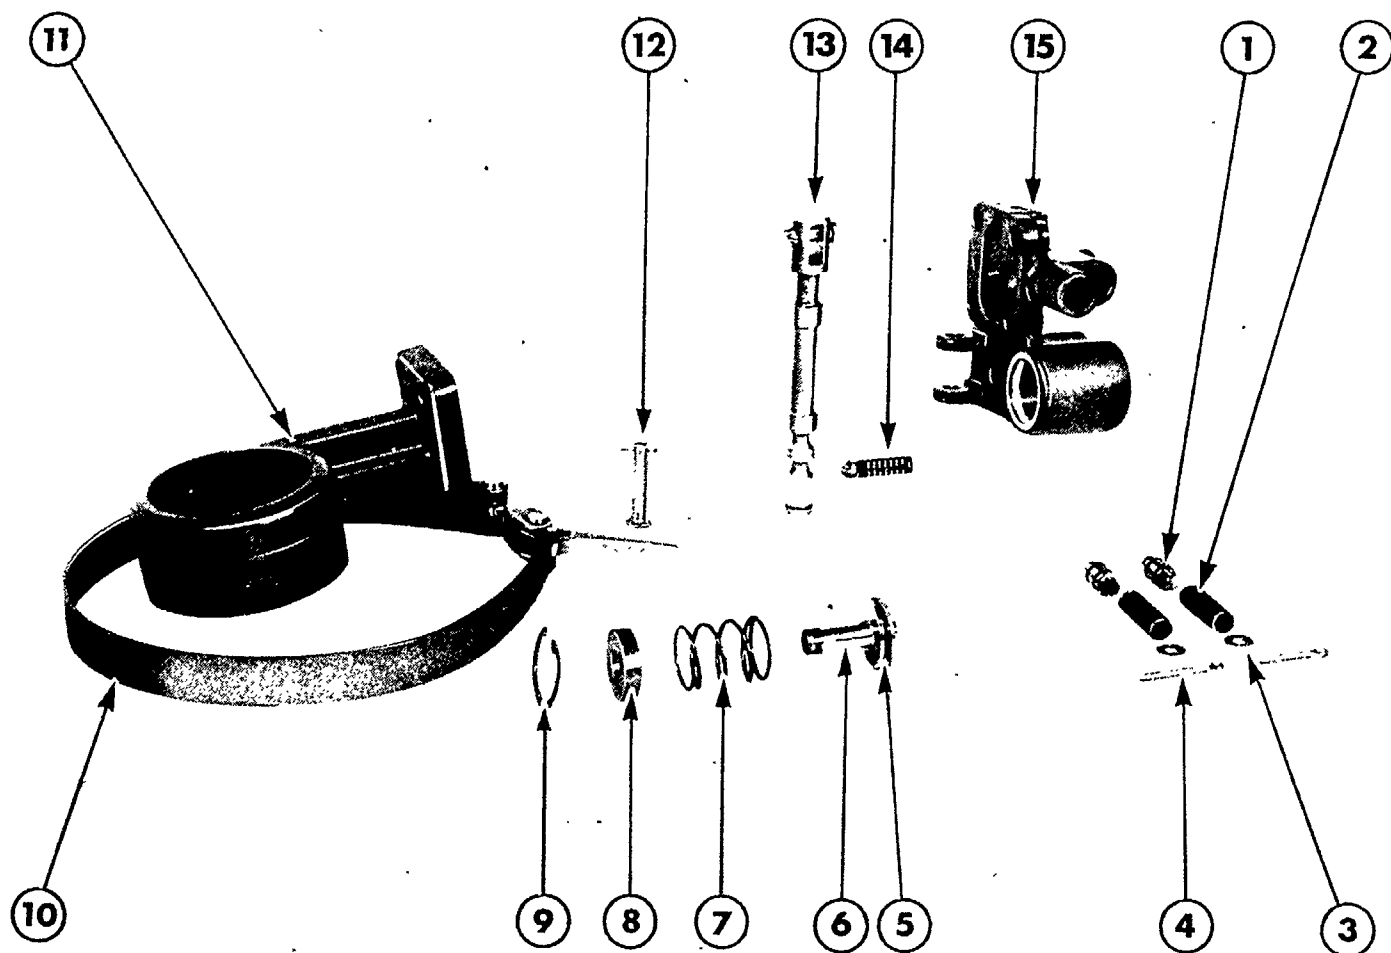

Figure 12
3. Remove the retaining ring from the end of the control valve spool and withdraw the spool. Take care not to lose the detent ball and spring located within the valve body, Figure 12.